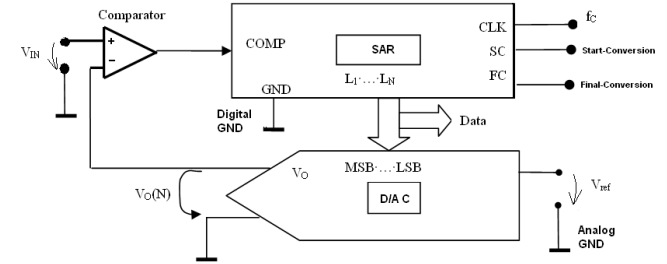
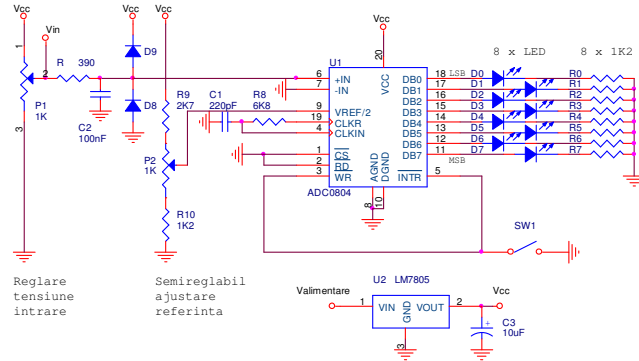

Fig.3. ADC with SA
Fig.4. The schematic of the ADC built on the breadboard.
The SA ADC is the most commonly used medium speed ADC. The schematic of this ADC is shown in Fig. 3.
Use the ADC from Fig. 3, based on the ADC0804 integrated circuit, as in the schematic from Fig. 4. The diodes  $D_8$ ,  $D_9$  and the resistor  $R$  are for input protection.  $R$  and  $C_2$  also act as a Low Pass Filter which eliminates the high-frequency perturbations. The group  $R_8$ ,  $C_1$  establishes the oscillation frequency of the internal oscillator. The supply voltage of 5V is obtained from the output of a 3-terminal voltage regulator (LM7805 or LF50).
View the clock oscillator of the ADC, by connecting the scope at pin 19. Read the frequency  $f_0$  indicated by the scope ( $C_1$  and  $R_8$  can differ from the values in fig. 4). Calculate the internal frequency  $f_{CK}$ , which is 8 times smaller (this value is a particularity of the circuit ADC0804 and is taken as is; other circuits can divide the clock differently). Compute the conversion time  $T_{conv0}$  of the ADC using relation (2).
**Obs:** At the end of the lab, bring the board to the initial state: connect again all the 8 LEDs to the ADC, redo the connection of the ADC's input to the P1 cursor, as in point 1 (fig. 4).